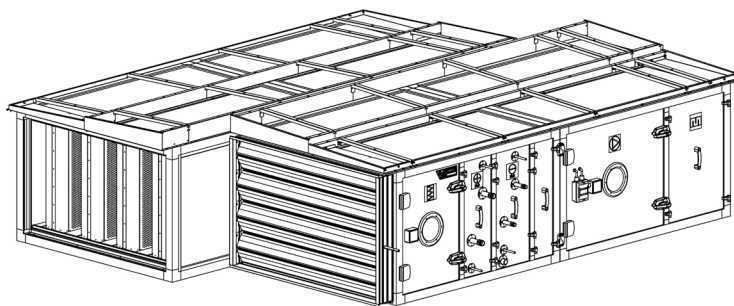

Figure 7.4
9. Assemble the opposite side of the frame in the same way as the first one. Complete frame assembly is shown in Figure 7.4.